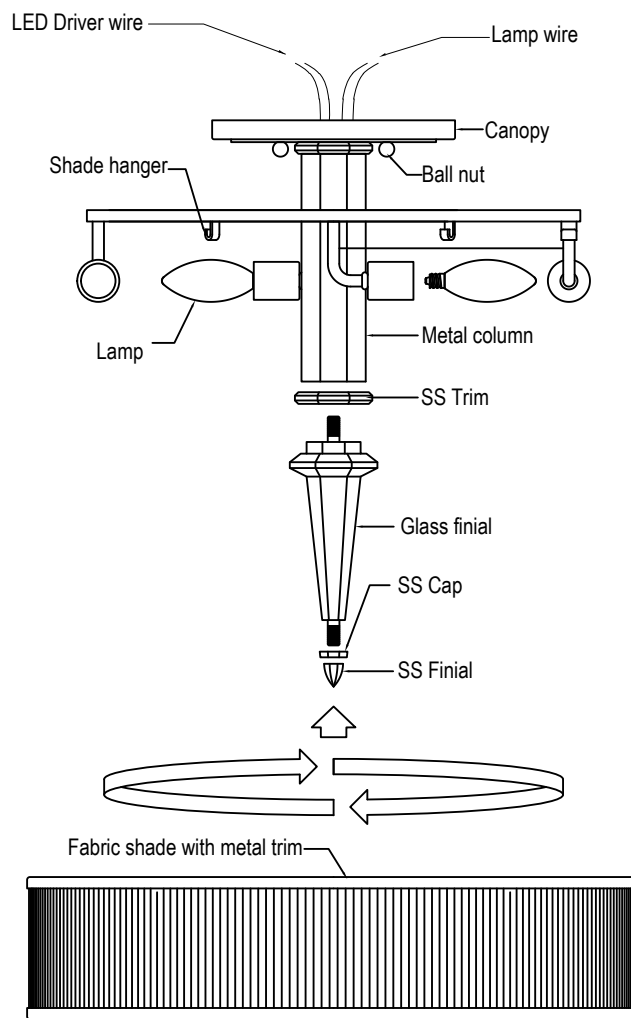

FIGURE-3
15. Attach the center stem and place the glass column together with the stainless trim, place the end cap and screw the finial and lock bushing to hold the glass column in place (See figure-3).